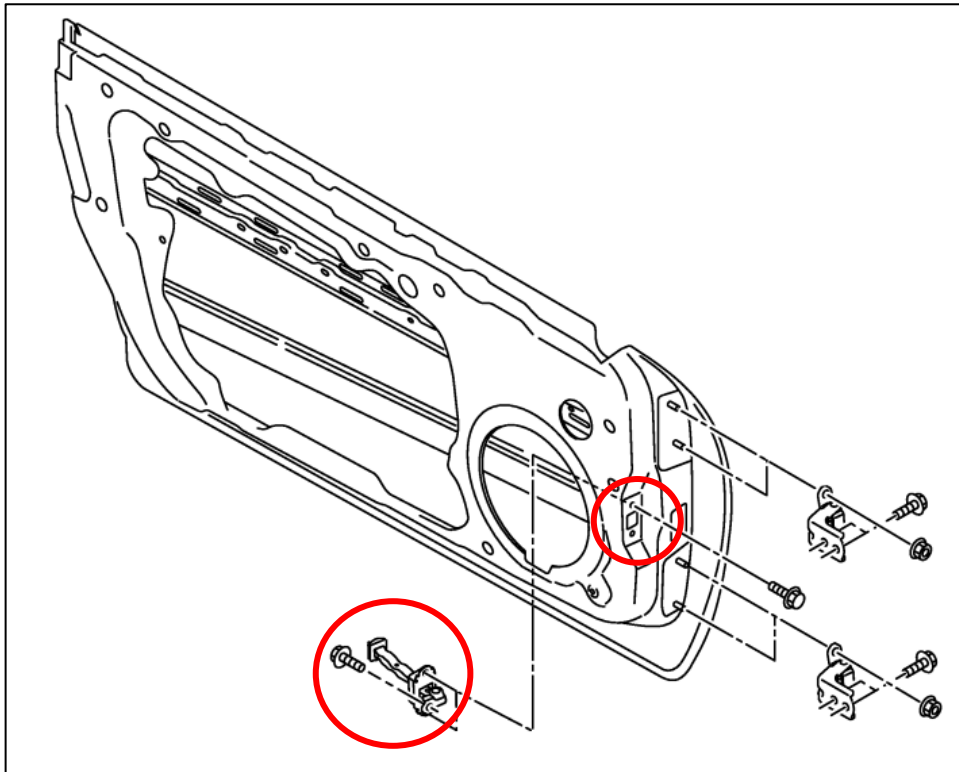

Figure 54
14. Open the Door as wide as you can. Disconnect the (3) three 10mm Bolts that secure the Check Link to the Door and the Body. *Figure 54.*